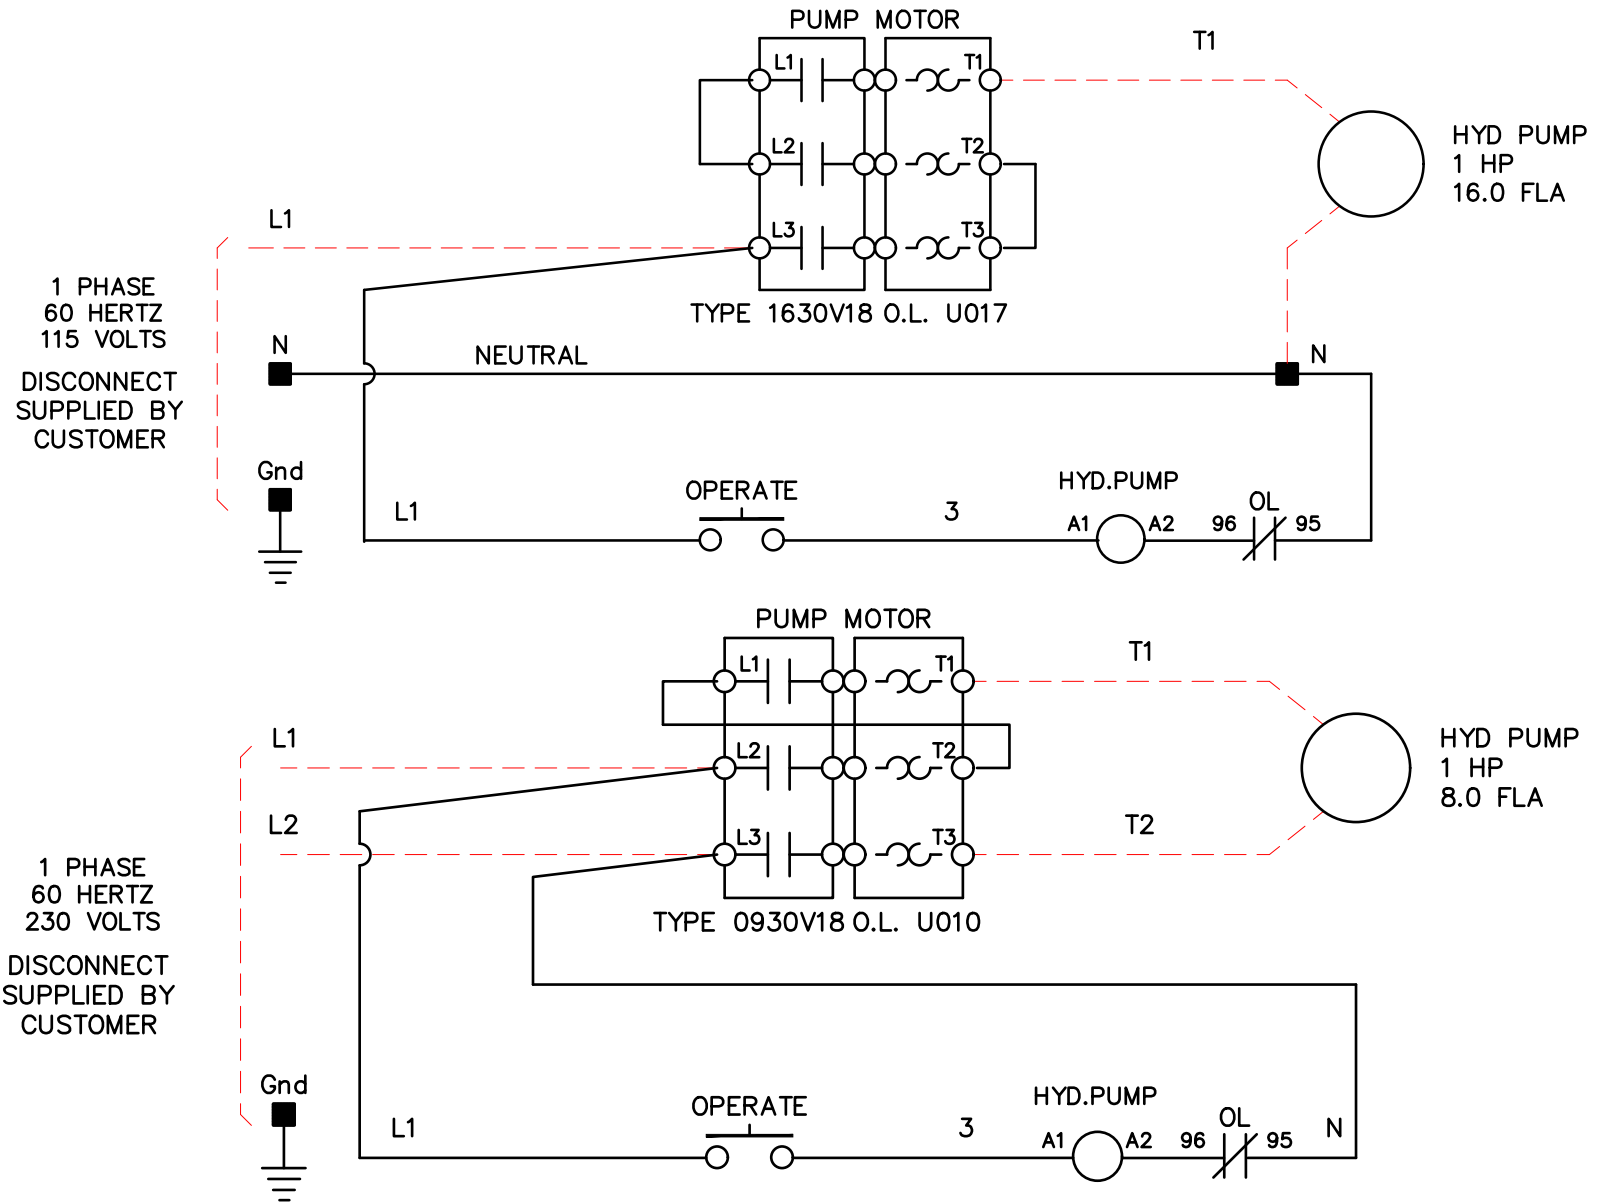
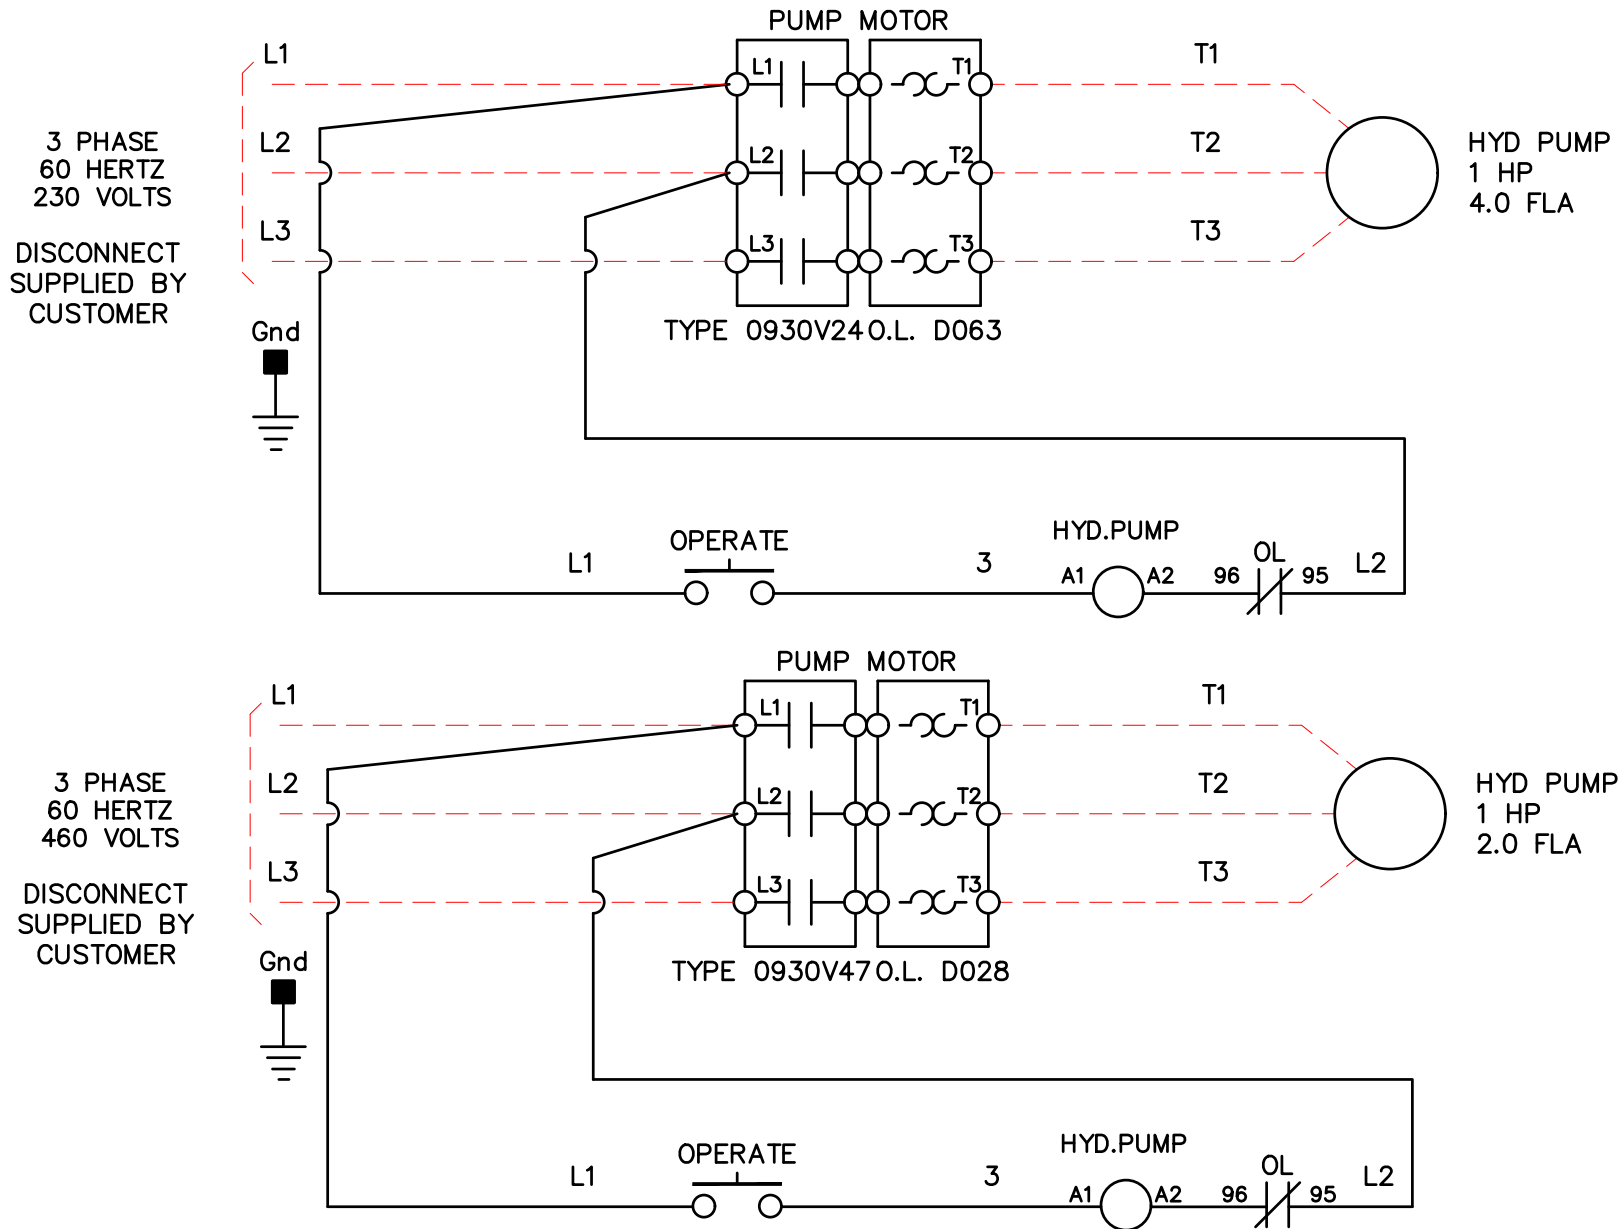

Figure 16
Figure 17
4. Once weld work on the rear of the leveler has been completed, finish wiring the controller to incoming service per the electrical wiring diagrams, as shown in **Figure 16** and **Figure 17**. All electrical wiring should be performed by a qualified electrician. Lockout/tagout the service line disconnect before performing any electrical work.
1. Shim below lip keepers and maintenance brace, using a prybar to lift the front of the leveler up to insert the shims, as shown in **Figure 17**. The leveler must be shimmed until the front of the deck is level with or just below dock height when the leveler is stowed.